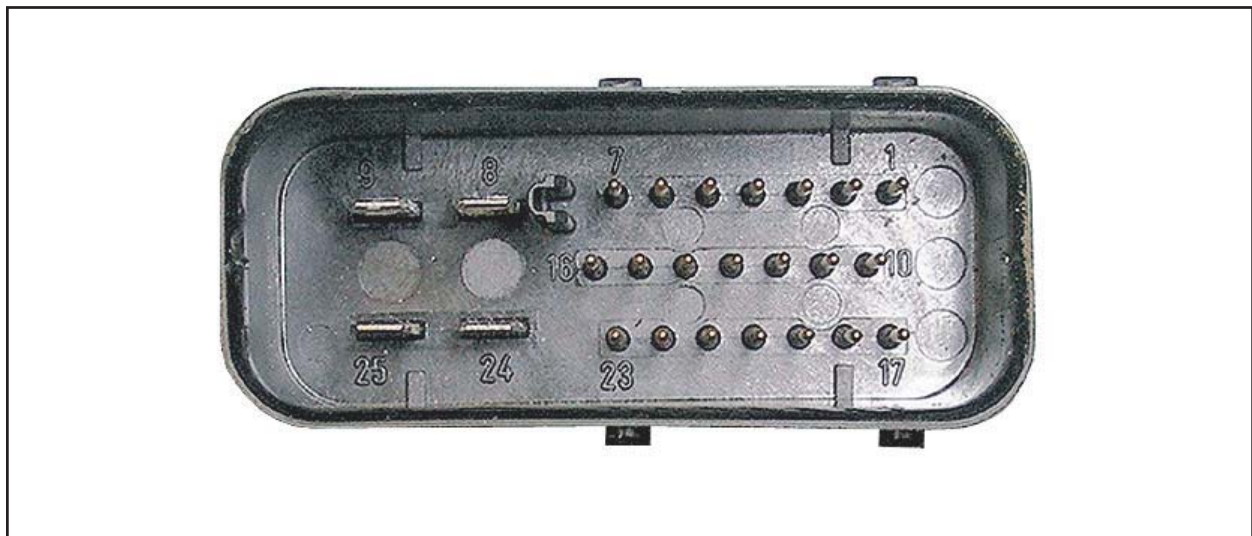

FIGURE 8
4. Inspect the ABS harness and module connectors for corrosion and/or heat damage (See Figure 8).